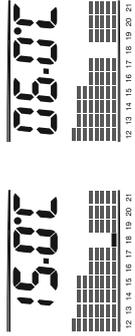
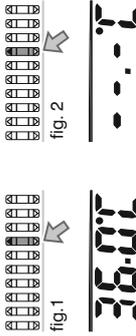

fig. 1
fig. 2
Decreasing the temperature in Winter mode  until **15.0°C** is reached (ex. in fig. 1), when pressed again the antifreeze temperature will appear **05.0°C** (ex. in fig. 2). If the antifreeze is switched off three dashes **- - -** will appear (see paragraph 8.9).
- 1*) Press the function button **C** the display shows Ch (hour counter) preceded by the number of operating hours and minutes of the current day (fig. 1). To display the number of operating hours and minutes of any day (only for the weekly model), press the corresponding button (fig. 2).